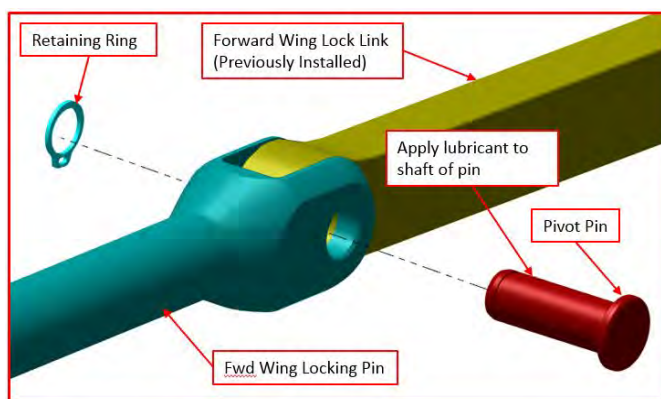

FIGURE 17-9
- g. Attach the ICA008143 and ICA008148 link rods to the handle and locking pins. Coat each ICA008144 pivot pin with MOLYKOTE™ on assembly. See Figure 17-9 for a typical installation. Verify correct pin orientation; the retaining rings are installed on the same side as the wing lock bushing flange and mounting boss flange. Also, note that the longer the two links and the longer the two locking pins connect and face aircraft forward, and the shorter the two, face aircraft rearward.